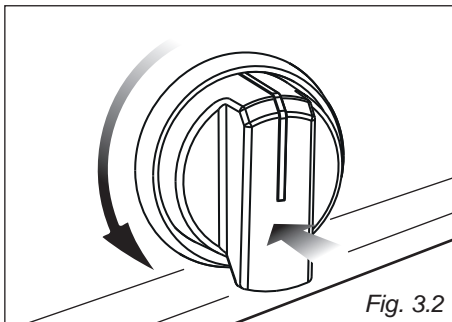

Fig. 3.2
- Unscrew the screw "D" and open completely the cable clamp "E" (fig. 3.2).
1. Push and turn the knob in an anticlockwise direction up to the ★🔥 position (maximum rate), push in and hold the knob until the flame has been lit (fig. 3.2).